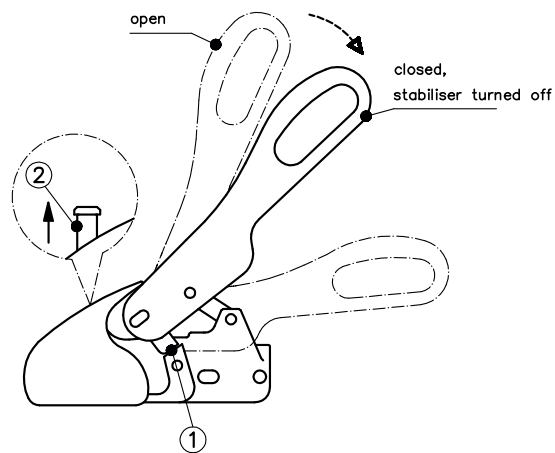

Fig. 4: Coupling
Please use the handles on the trailer and not the operating lever of the WS 3000/3500 when positioning the trailer. Place the open ball coupling on the vehicle's coupling ball (Fig. 4). The weight of the supported load (plus possible additional pressure) results in the drawbar closing the ball coupling automatically and the side securing plates (1) are positioned parallel to the securing surfaces on the housing (Fig. 4). The green pin in the control display (2) is visible if the coupling ball is located in the coupling housing (Fig. 4).
The trailer should be parked with the ball coupling closed if not being used for any greater length of time. To do so, raise the open operating lever (Fig. 4), simultaneously pull the ball